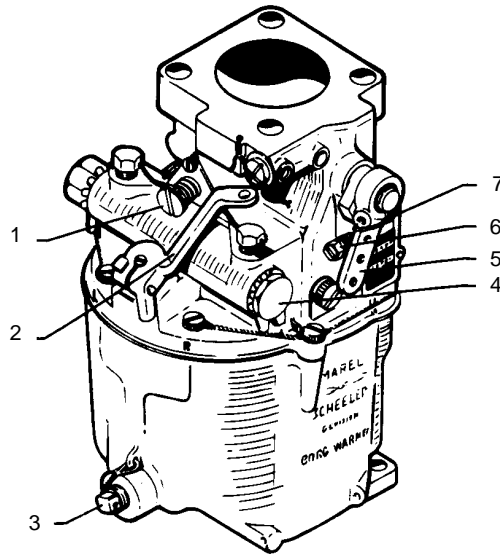

Figure 8-6. Carburetor
- d. Clean the fuel inlet screen. (Refer to Figure 8-6.)
8-19. ADJUSTMENT OF IDLE MIXTURE. (Refer to Figure 8-6.)